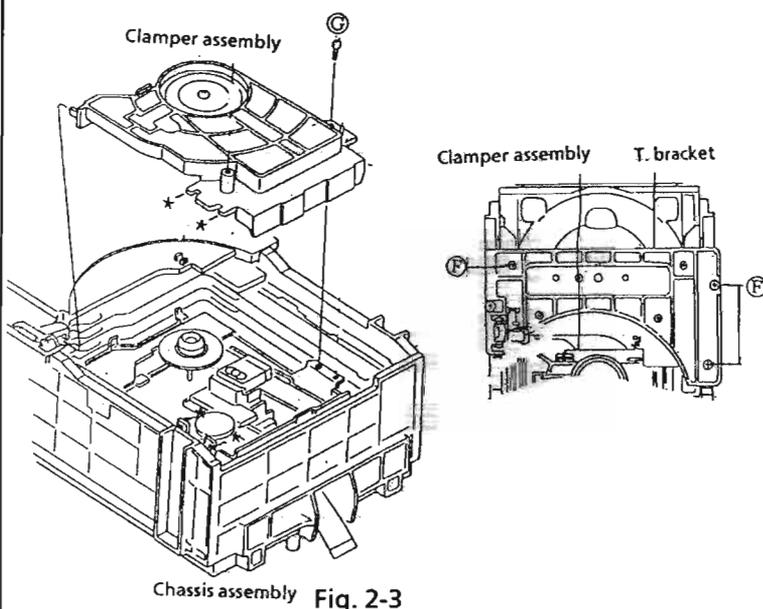

Fig. 2-3
3. Remove 3 screws (F) securing T.Bracket. (See Fig. 2-3.)
4. Remove a screw (C) securing center of the clamper ass'y. (See Fig. 2-3.)